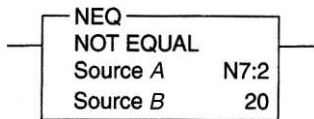

Figure 10-16 Instruction for question 28.
28. What value(s) stored in N7:2 of Figure 10-16 would make this instruction true? 28. _____